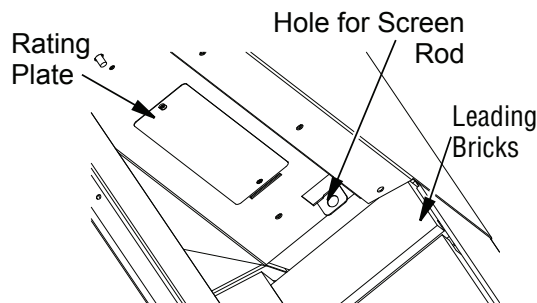

Figure 14 - Installing Fireplace Screen
2. Insert the round end screen rod into hole on the left and right side of smoke shelf (**Figure 14**).